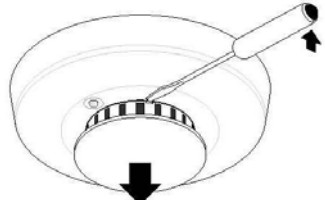

Figure 5: Removing Alarm Cap
3. Slide a flat-blade screwdriver in the slot on the detector cap and gently push the handle down to pry the cap up and off. See Figure 5.